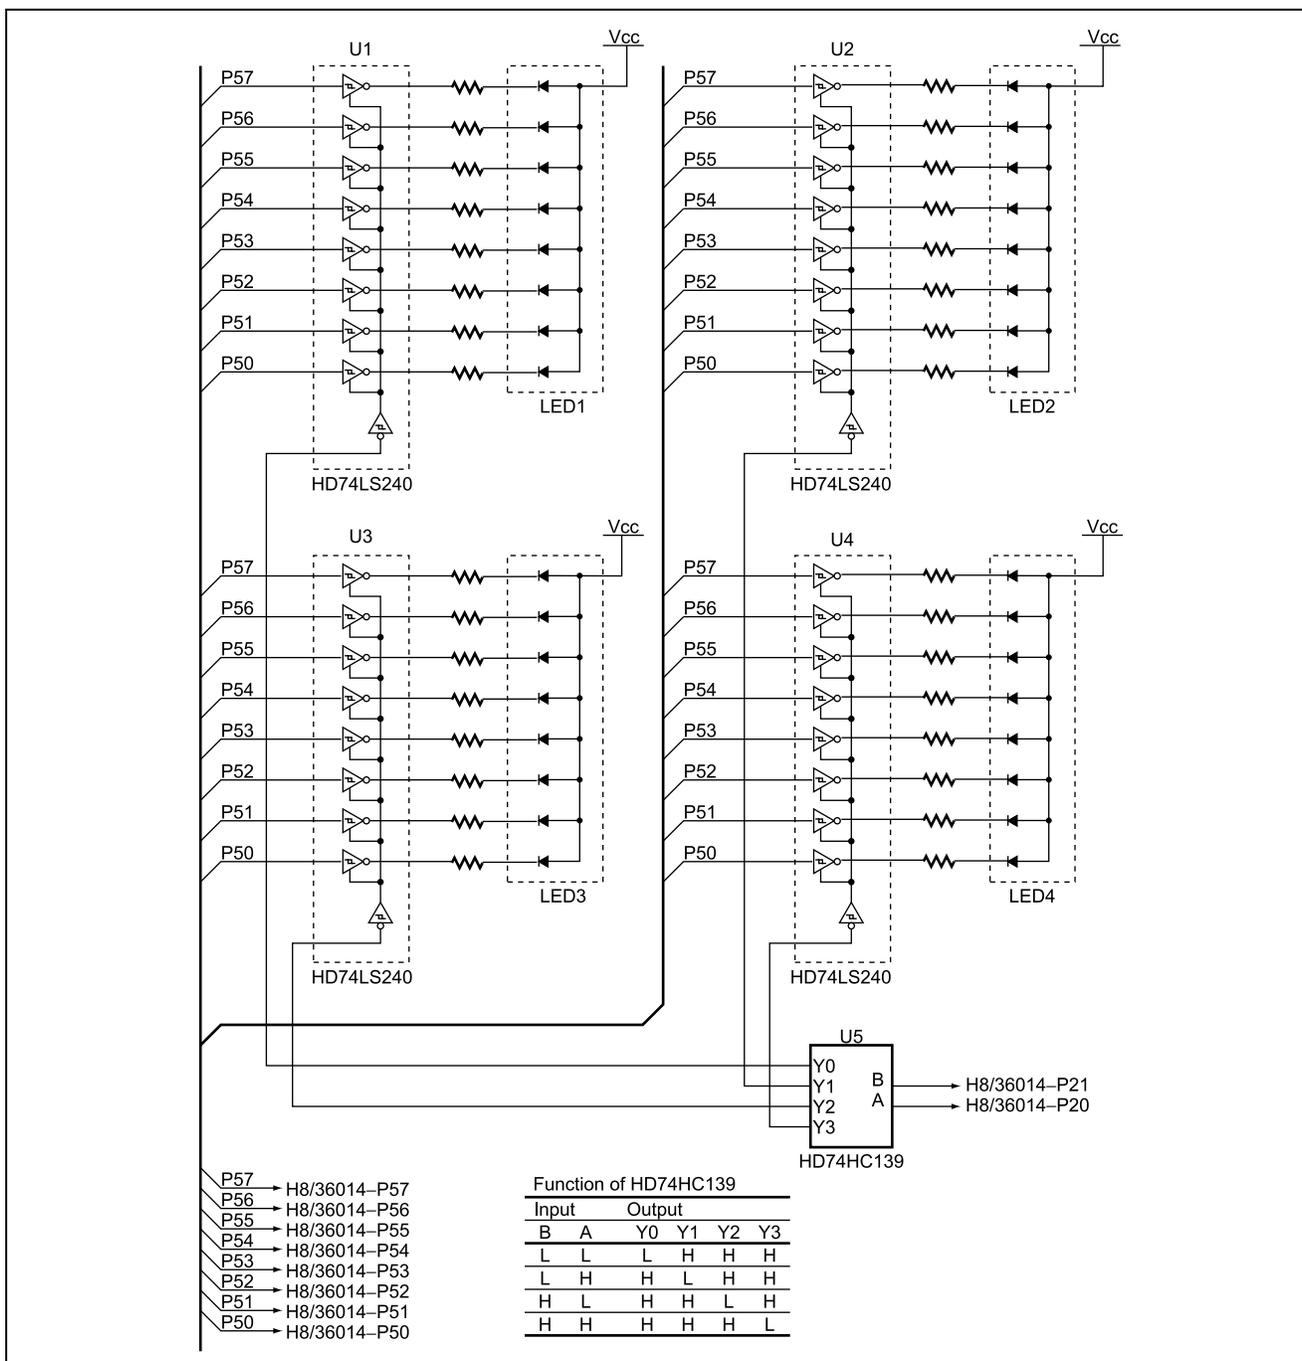

Figure 1.3 7-Segment LED Control
8. In this sample task, display on the 7-segment LED is handled by attaching port outputs from the microcontroller to the inputs to the tri-state-output inverter drivers (HD74LS240), the outputs from which are in turn connected to the cathodes of the 7-segment LEDs. The same eight port-output pins are used to control the display on each of the four 7-segment LEDs. The enable pins of the tri-state inverter driver control switching between the 7-segment displays. The signals used to switch between the displays are generated by a 2-to-4-line decoder (HD74HC139), which is controlled by two port-pin outputs. Figure 1.3 shows how the 7-segment LEDs are controlled.